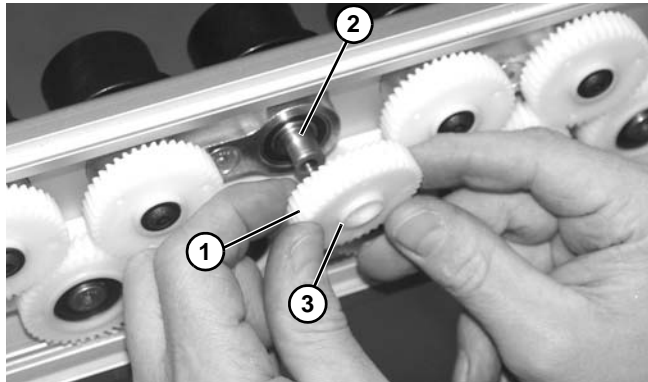

Figure 37
5. Remove the gear (**Figure 37, item 1**) from the roller shaft (**Figure 37, item 2**). Make note of the raised flange (**Figure 37, item 3**) on the gear. This raised flange should be installed toward the outside.